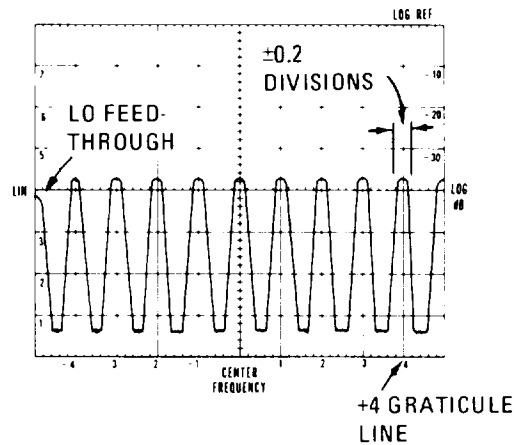

Figure 5-7. 47 MHz LO Adjustment Display
6. Using non-metallic tuning tool, slowly adjust 8552A A3A2C4 (see Assembly and Adjustment Locations photo in 8552A manual) until the LO feedthrough appears on the CRT (about  $\pm 1$  .turn); then adjust 8552A A3A2C4 until LO feedthrough is centered on far left graticule line (see Figure 5-7).